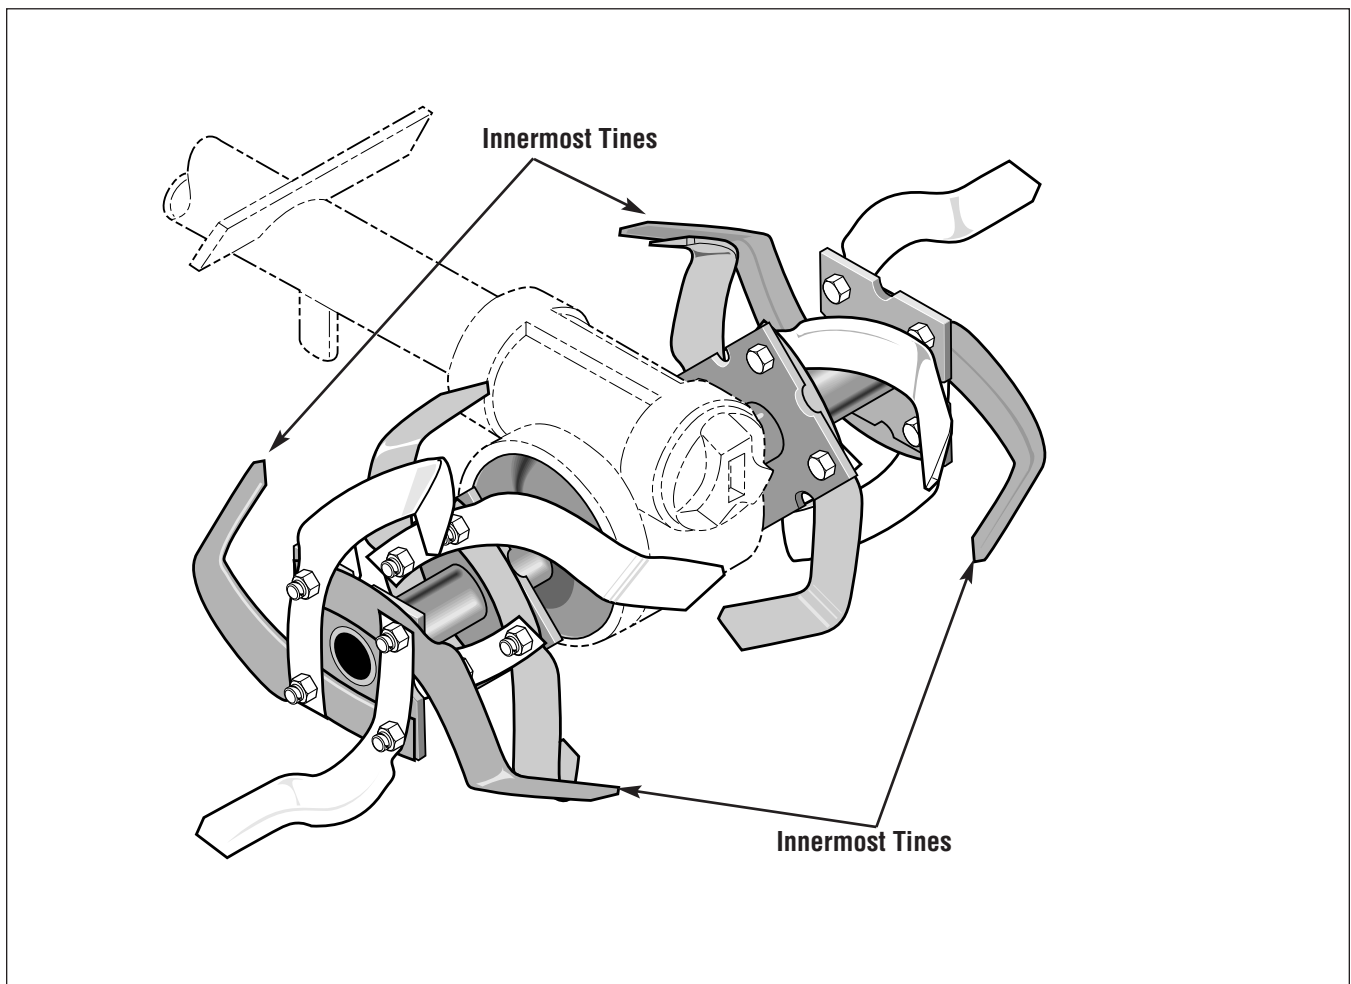

Figure 16: ECONO HORSE tines installed.
- ✓ The tips of these two tines should be directly opposite and point toward the tips of the two tines installed in Step 1-A. See Figure 16.
- ❑ Make sure that the tips of the four **innermost** tines on the outer holders are pointing toward each other and inward (toward the transmission housing). See Figure 16.